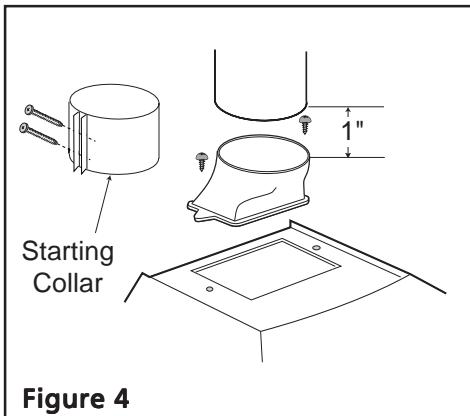

Figure 4
11. Install transition on top of hood if removed for shipping. Figure 4.
15. Connect ducting (Figure 4).
A 90° elbow may be installed immediately above the hood. For serviceability, a mounting similar to the straight up discharge shown in Figure 4 should be used.